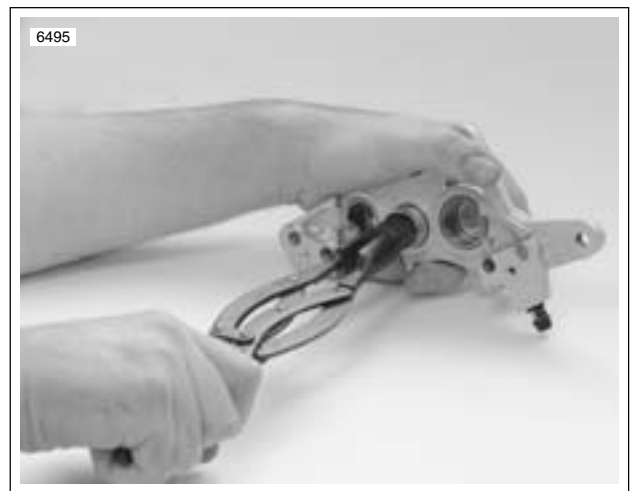

Figure 2-30. Removing Pistons
3. See Figure 2-30. Use BRAKE CALIPER PISTON REMOVER (Part No. B-42887) without adaptor to pull the six pistons from caliper bores.